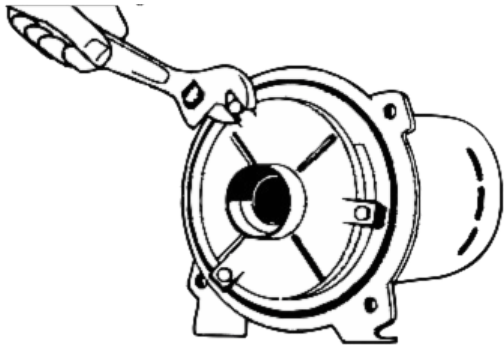

Figure 10: Remove Diffuser Plate
4. Remove diffuser plate bolts and take off diffuser (Figure 10). When replacing diffuser, use three .010" thick shims equally spaced between impeller eye and diffuser to prevent impeller rubbing diffuser and binding.